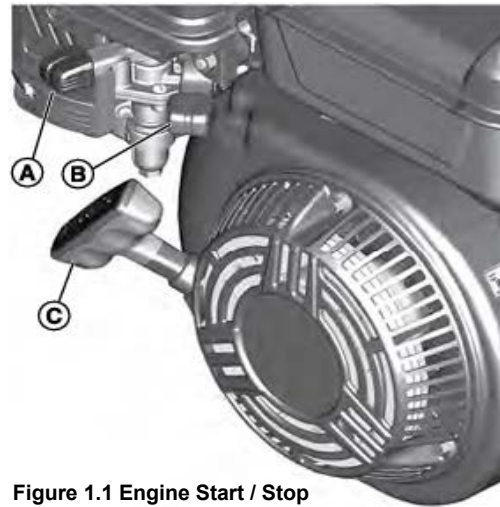

Figure 1.1 Engine Start / Stop
3. Move the throttle control lever / TransportGuard® (A, Figure 1.1), if equipped, to the FAST or RUN position. Operate the engine in the FAST or RUN position.
4. Move the choke control (B, Figure 1.1) to the CLOSED position. The choke is usually not necessary when you start a warm engine.
5. Tightly hold the starter cord handle (C, Figure 1.1). Pull the starter cord handle slowly until resistance is felt, then pull quickly
6. As the engine warms, move the choke control (B, Figure 1.1) to the OPEN position.
7. To Stop the engine, move the throttle control / TransportGuard® (A, Figure 1.1) to the OFF or STOP position.
NOTE: When the throttle control / TransportGuard® (A, Figure 1.1) is in the OFF or STOP position, the fuel valve is in the OFF position. Always move the throttle control / TransportGuard® to the OFF or STOP position during transport of the equipment.